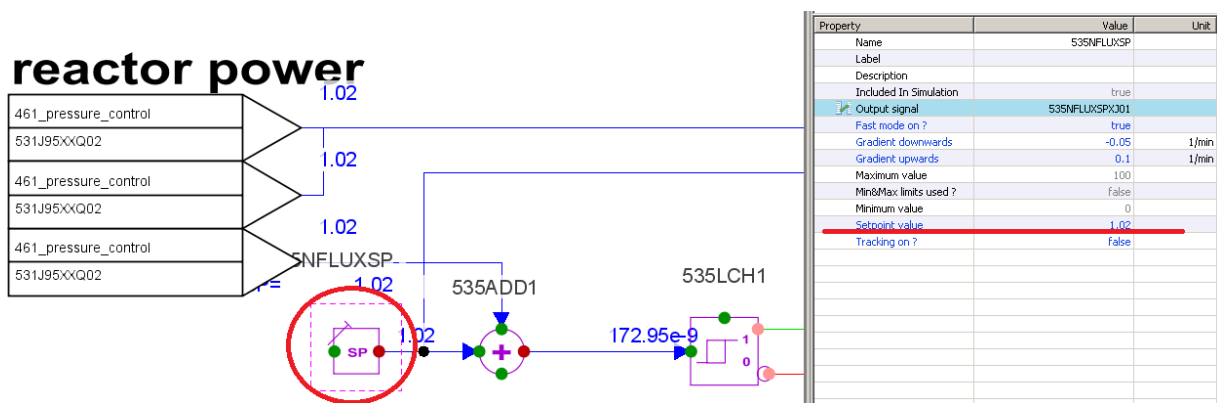

Figure 16. Changing the reactor power setpoint value
8. Change the "535NFLUXSP" setpoint value in the "535_reactor_power_control" diagram to 0.9 (see Figure 16). Reactor power set point 535NFLUXSP is an input signal for 535 reactor power control system. The rotation speed of the main circulation pumps 313P1-P6 is decreased by the automation to reach the new power set point.